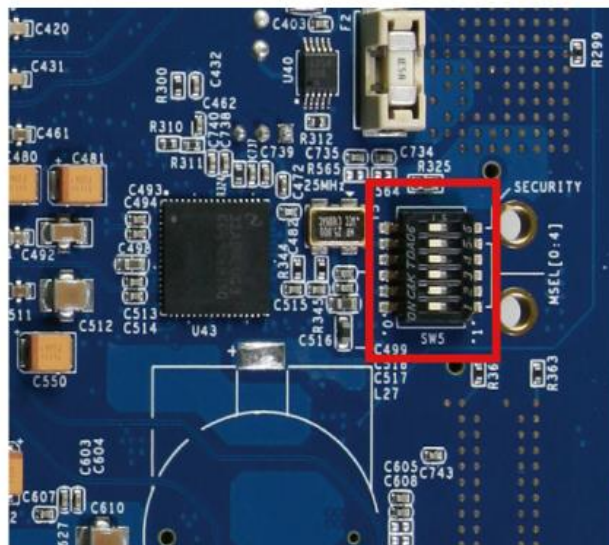

Figure 4-1 MSEL[0:4] set to “00000”
2. Set the FPGA configuration mode to FPPx16 mode by setting **SW5** MSEL[0:4] as 00000 as shown in **Figure 4-1**.